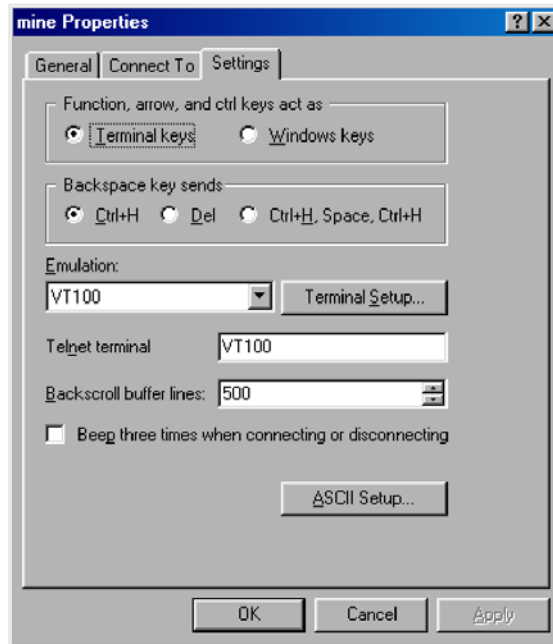

Figure 42. Terminal keys configuration
- Configure the Settings for *Function, arrow and ctrl keys act as* to *Terminal keys* as shown in figure 42.